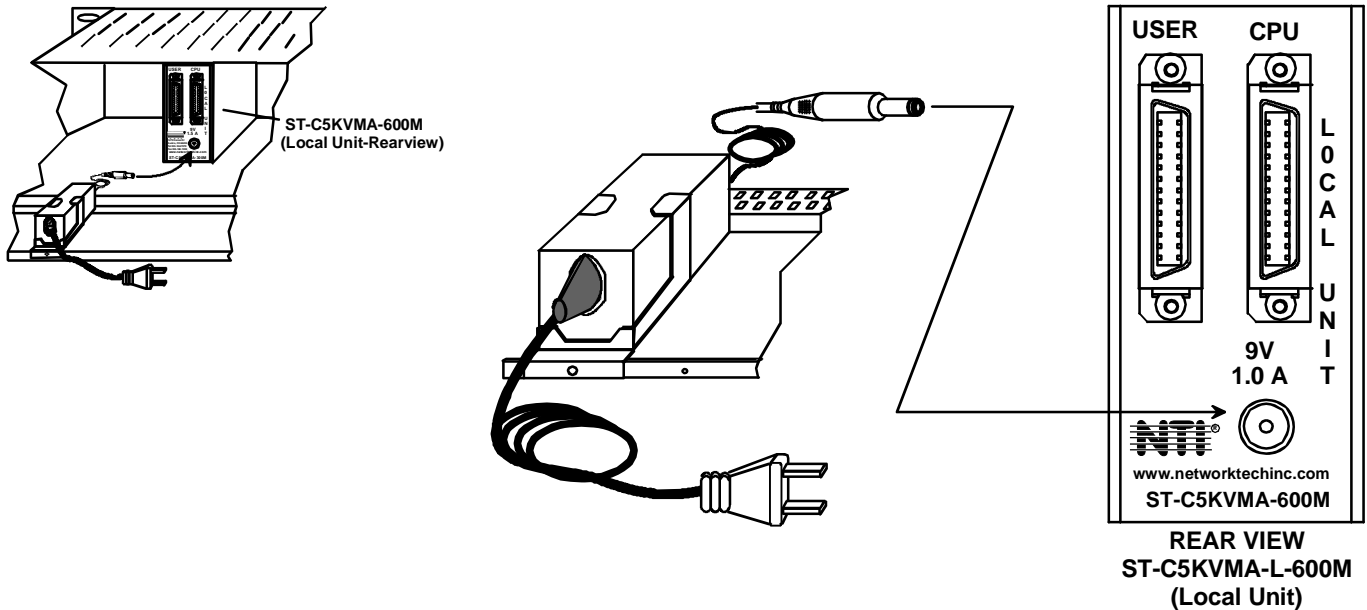

Figure 24- Connect AC adapters
2. Connect the AC adapter power connectors to the 9VDC ports on the Remote and Local Units. (AC adapter shown in Figure 24)